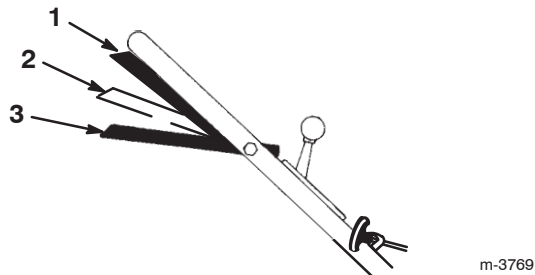

Figure 11
- Squeeze the control bar against the handle to the **Run/Drive** position (Fig. 11).
Note: Do not shift speeds while squeezing the control bar against the handle in the **Run/Drive** position; this can damage the transmission. Move the control bar to the **Run/Shift** position (Fig. 11) when you change the ground speed.